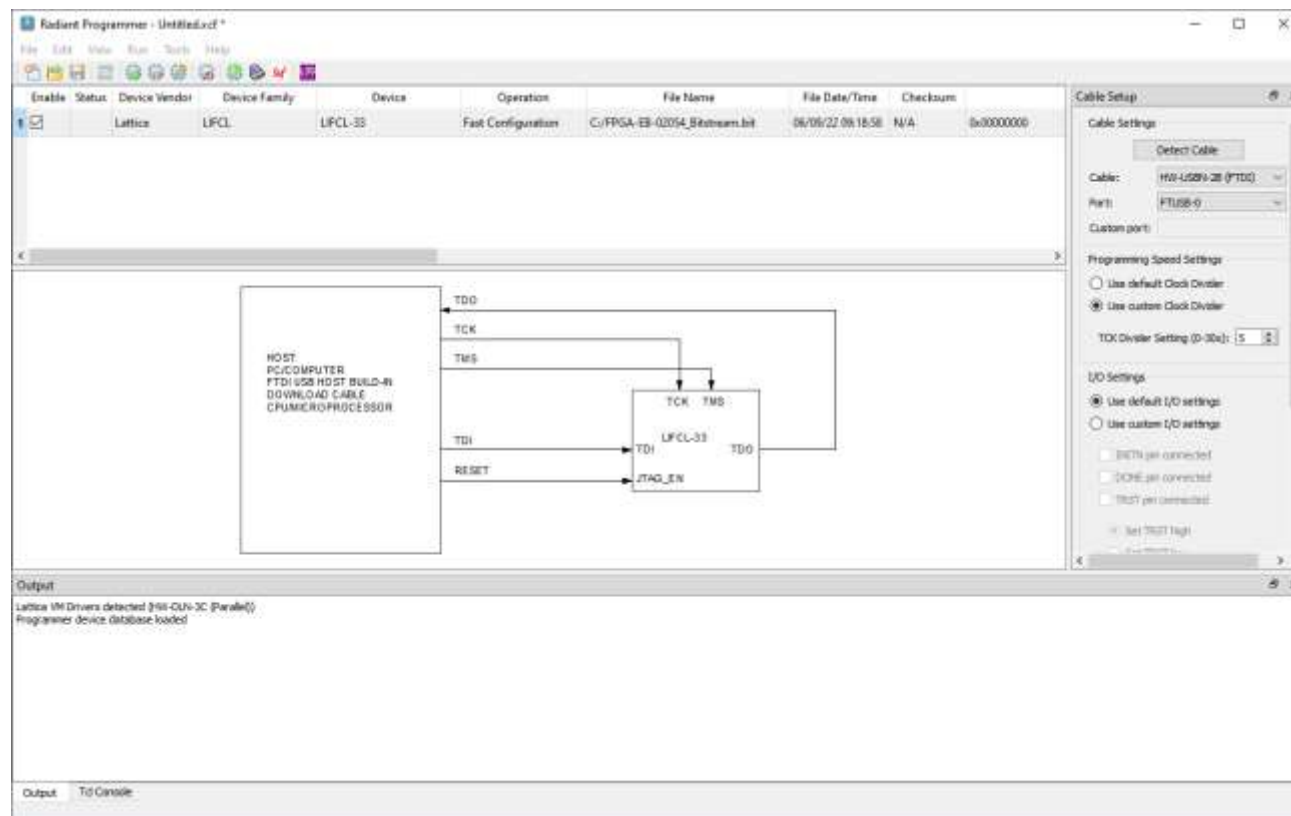

Figure 3.3. Lattice Radiant Programmer – Fast Configuration
- When the board is successfully scanned, the window shown in Figure 3.3 opens. This interface allows you to enter the file name.